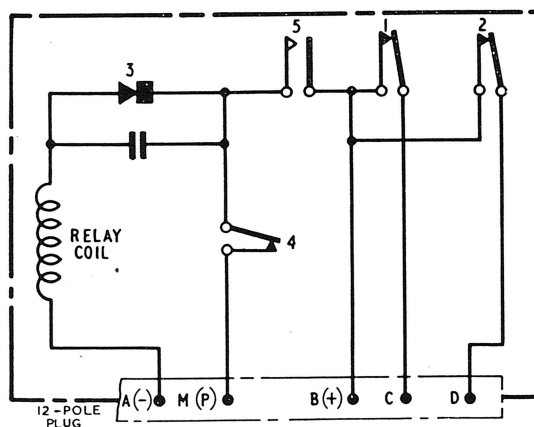

Fig. 4 Typical circuit diagram
5. The circuit diagram (fig. 4) is of a typical D8100 series switch and shows a unit with two pairs of circuit contacts (1 and 2) in their normally un-operated position. The interrupter contacts 3, the primary contacts 4, and supply contacts 5 control the winding of the spring, while contacts 1 and 2 control separate circuits via poles B(+), C, and D. The interrupter contacts are mounted on the relay and are operated directly by the relay armature.
6. Upon depressing the starter push switch the relay coil (*fig. 4*) is energized via contacts 3 and 4. The energized coil then attracts the relay armature to its core. The movement of the armature breaks the coil circuit by opening the interrupter contacts 3. The coil now being de-energized, the armature returns to its previous position under the action of a spring and, in so doing, recloses contacts 3; the armature thus vibrates.